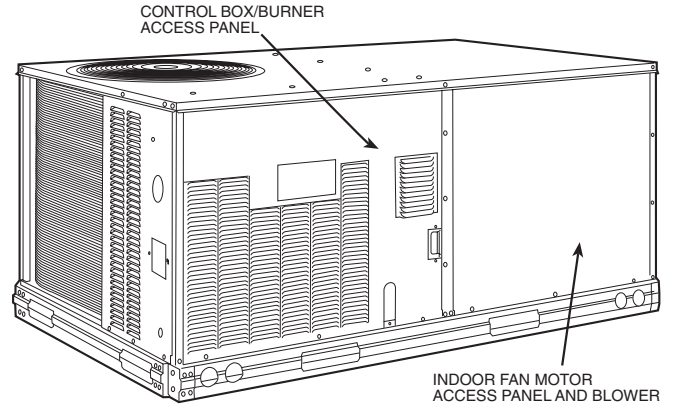

Fig. 33 — Typical Access Panel Locations (Standard Efficiency Unit Shown)
10. Remove the indoor fan motor access panel. See Fig. 33.